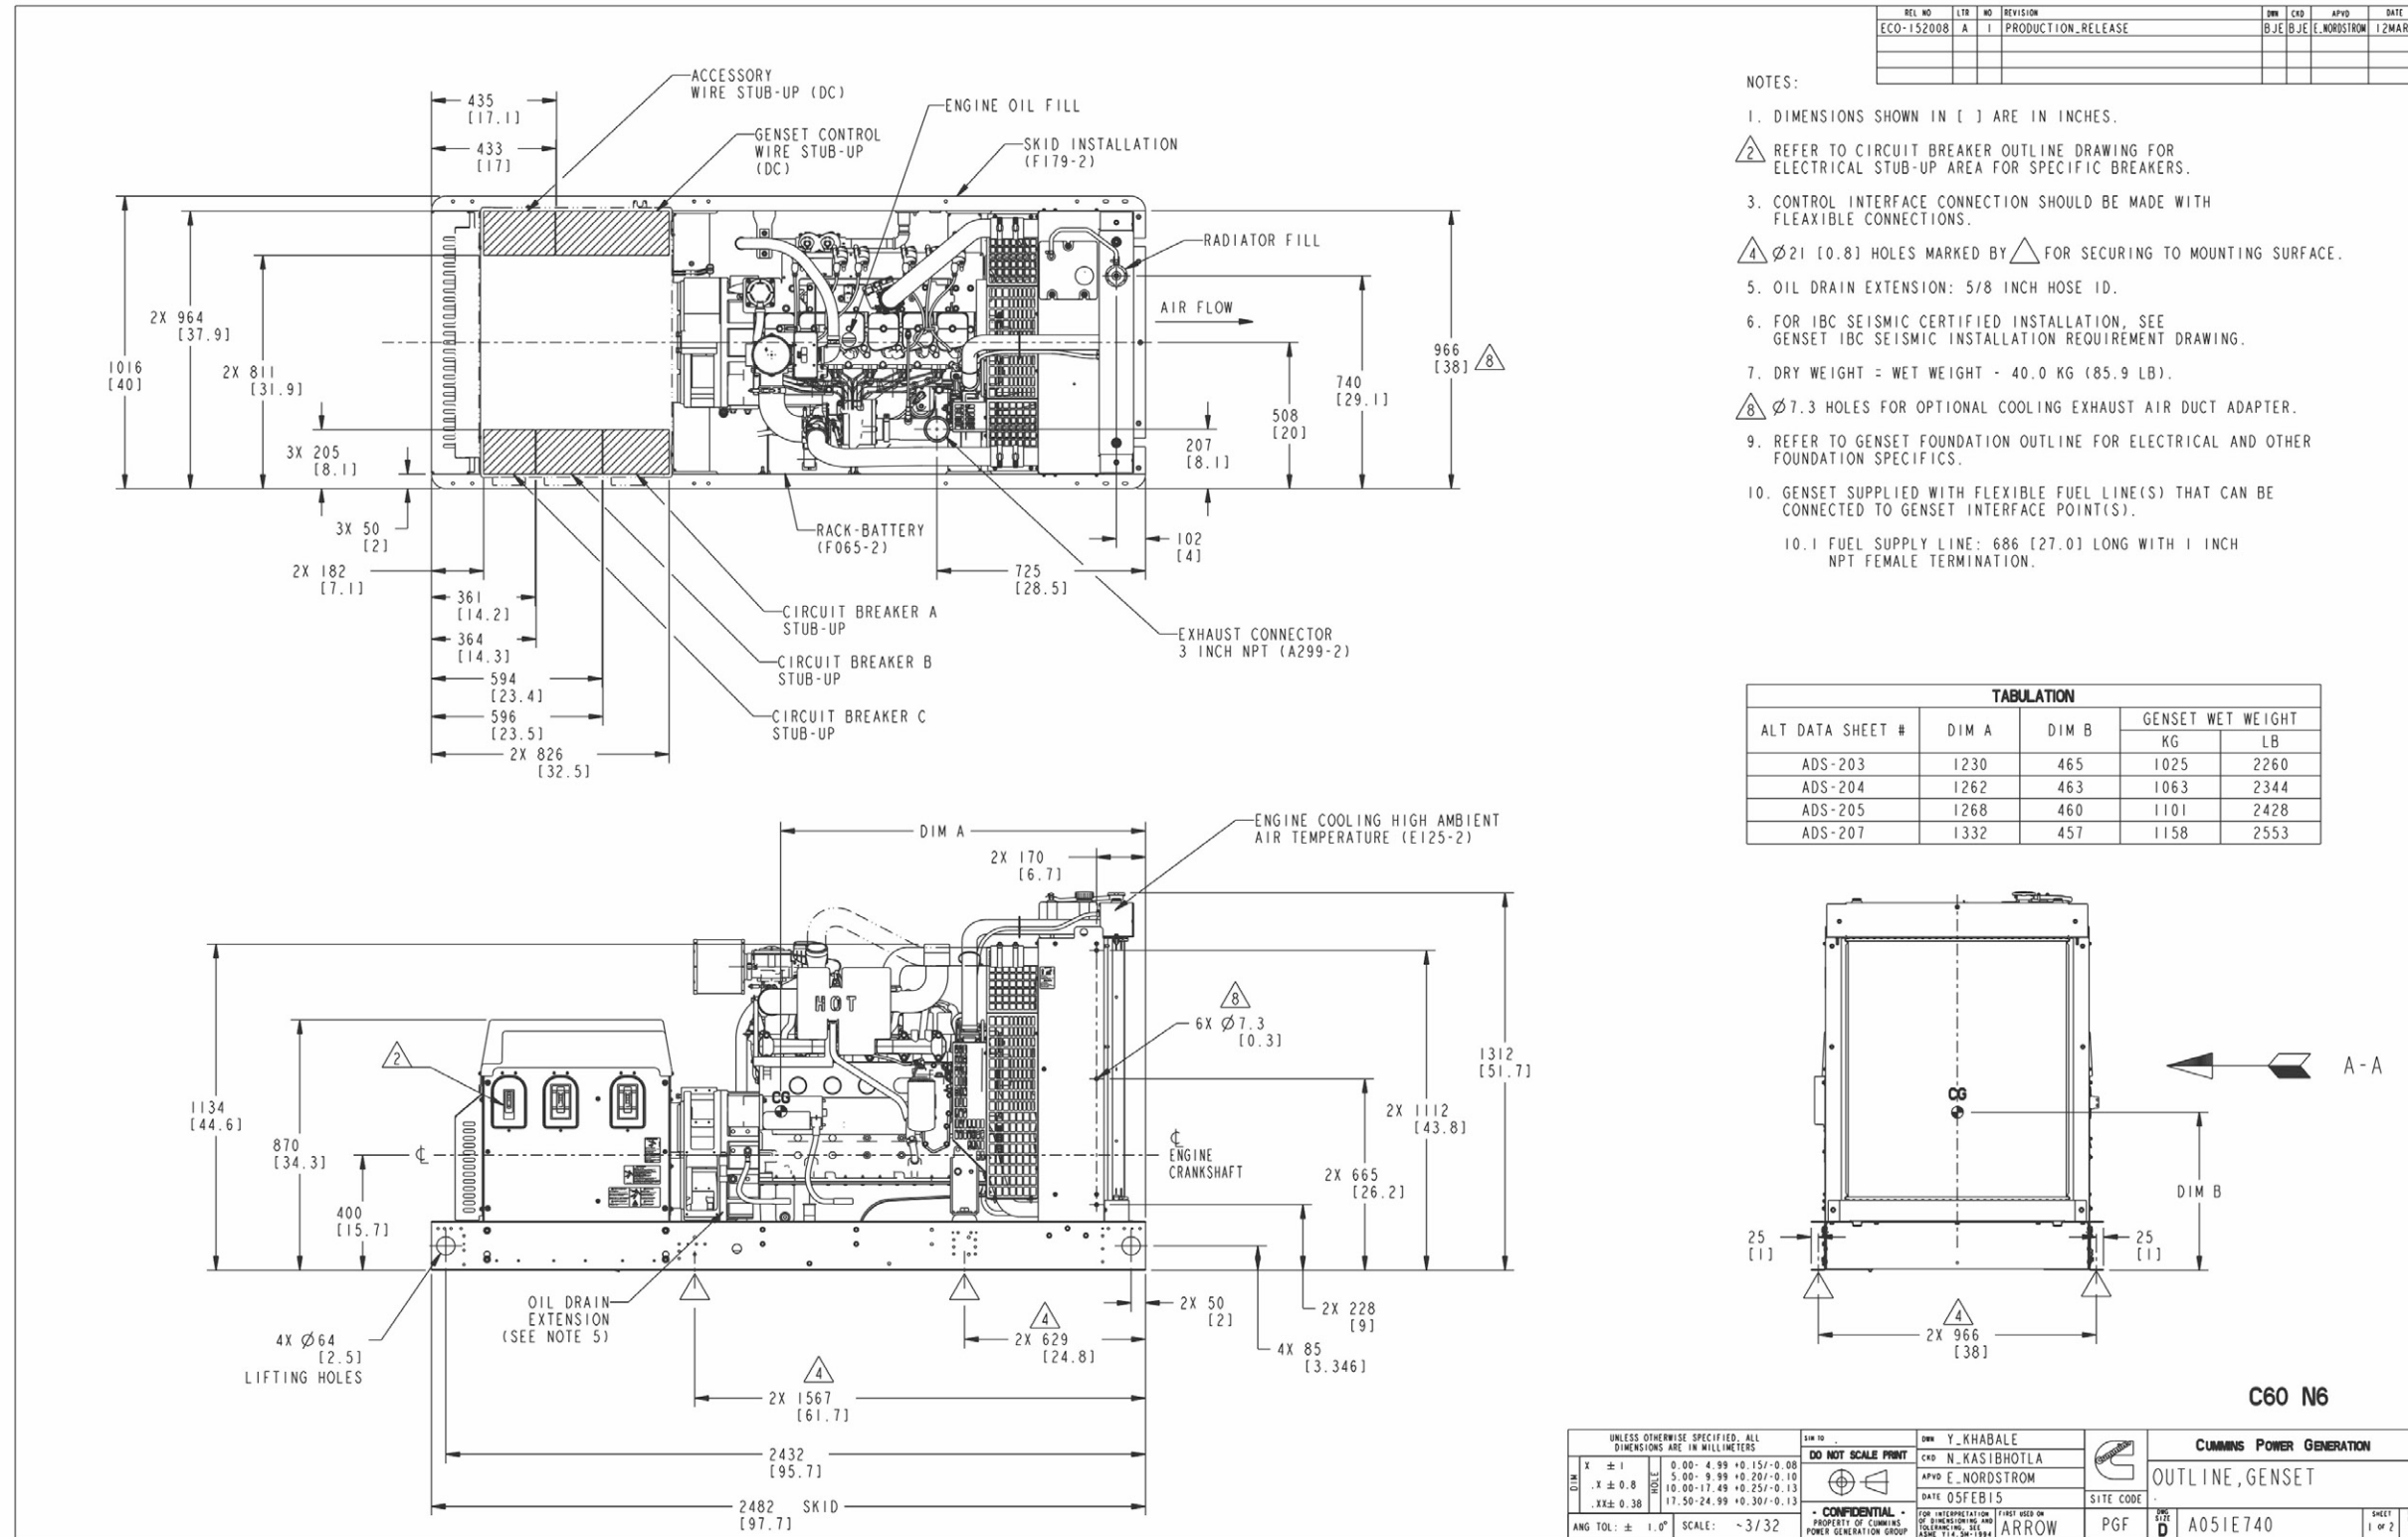

FIGURE 35. GENERATOR SET OUTLINE, 60 KW (SHEET 1 OF 2)
- Figure 35. Generator Set Outline, 60 kW (Sheet 1 of 2) 107